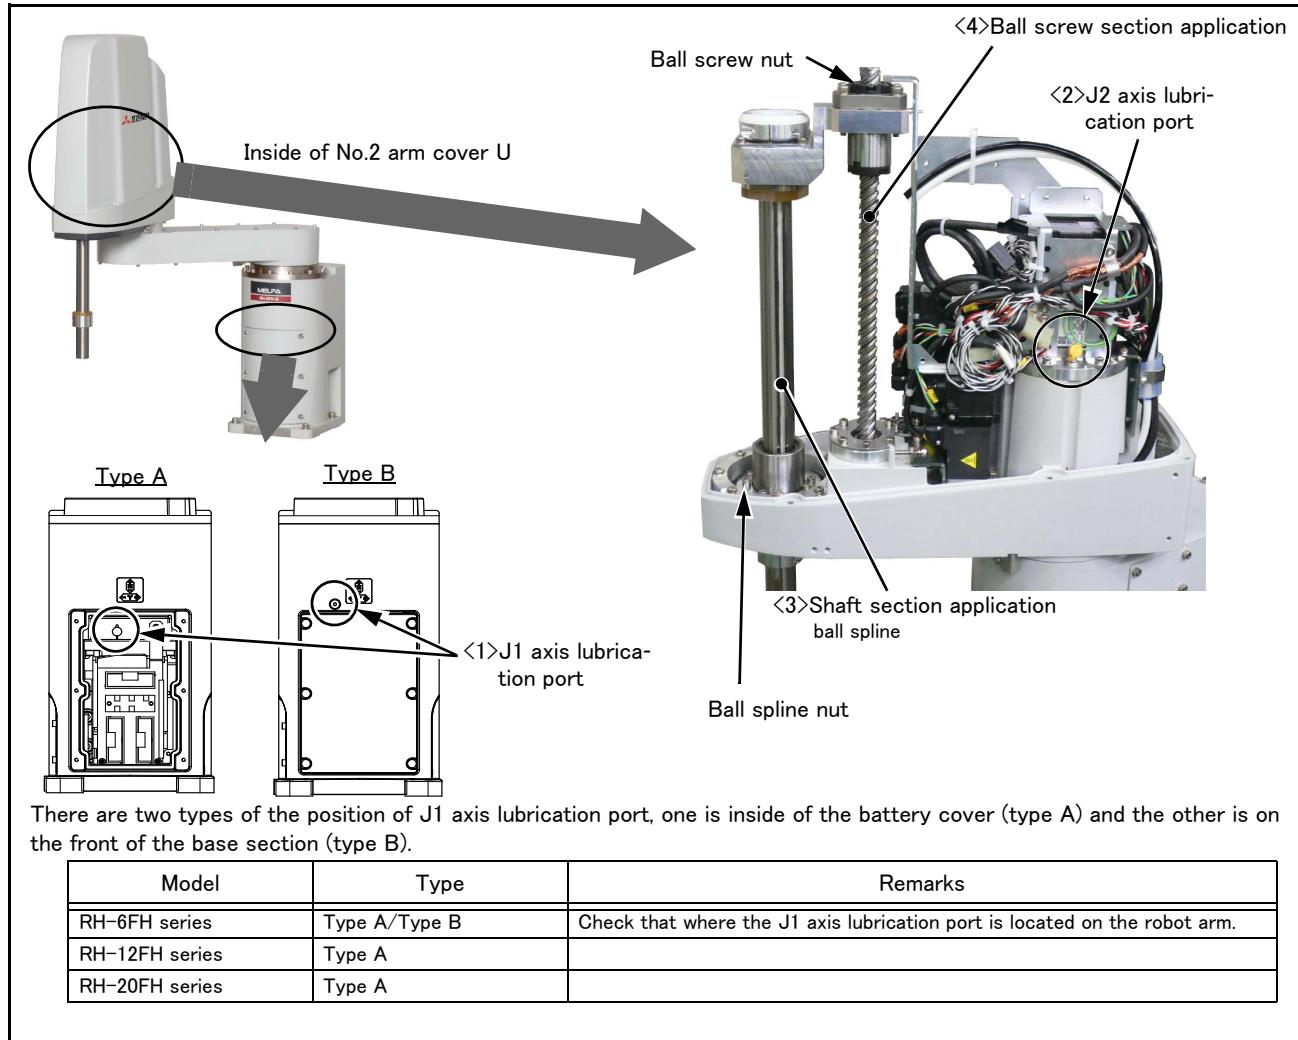

Fig.5-14 : Lubrication positions
The grease nipple position is shown in Fig. 5-14. The lubrication specifications for each place are shown in Table 5-4. Refer to the Page 75, "5.3.2 Installing/removing the cover" for the method of removing and installing the cover.
- The numbers in the Table 5-4 correspond to the supply positions in Fig. 5-14.
(2) Lubrication method to the J1, J2 axis